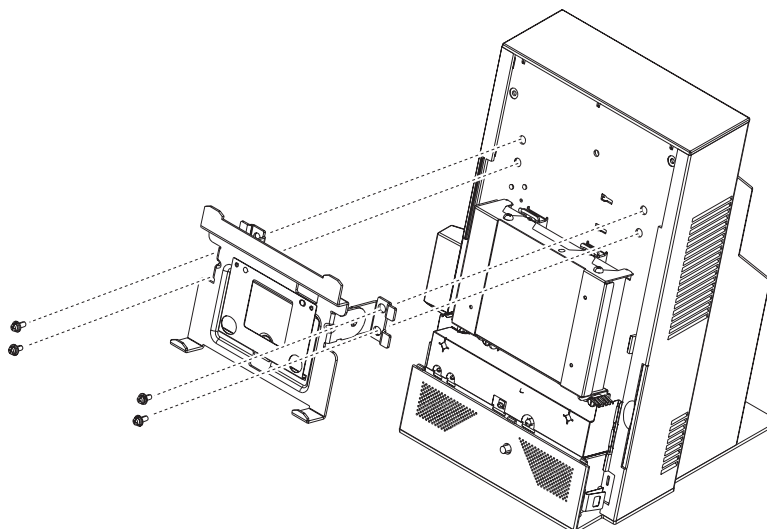

Figure 62. Hinge assembly
5. Remove the four screws shown in Figure 62 on page 76.